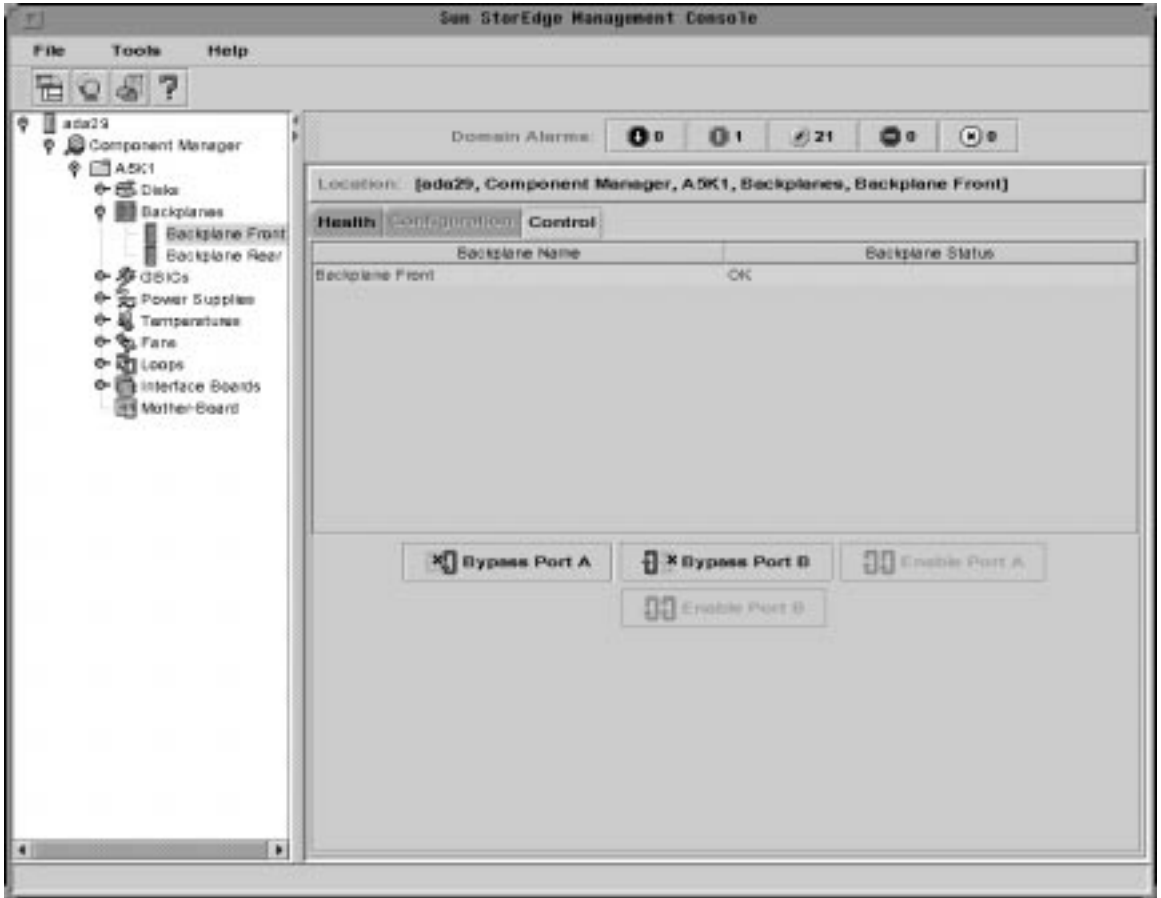

FIGURE 3-4 Control Backplane Window
3. Select the Control Tab (see FIGURE 3-4).